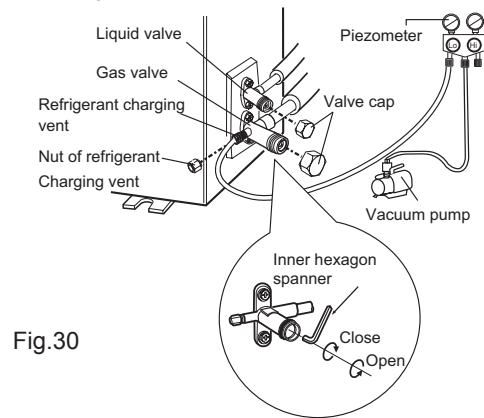

Fig.30
- (1) Remove the valve caps on the liquid valve and gas valve and the nut of refrigerant charging vent.
- (2) Connect the charging hose of piezometer to the refrigerant charging vent of gas valve and then connect the other charging hose to the vacuum pump.
- (3) Open the piezometer completely and operate for 10-15min to check if the pressure of piezometer remains in -0.1MPa.
- (4) Close the vacuum pump and maintain this status for 1-2min to check if the pressure of piezometer remains in -0.1MPa. If the pressure decreases, there may be leakage.
- (5) Remove the piezometer, open the valve core of liquid valve and gas valve completely with inner hexagon spanner.
- (6) Tighten the screw caps of valves and refrigerant charging vent.(As show in Fig.30)